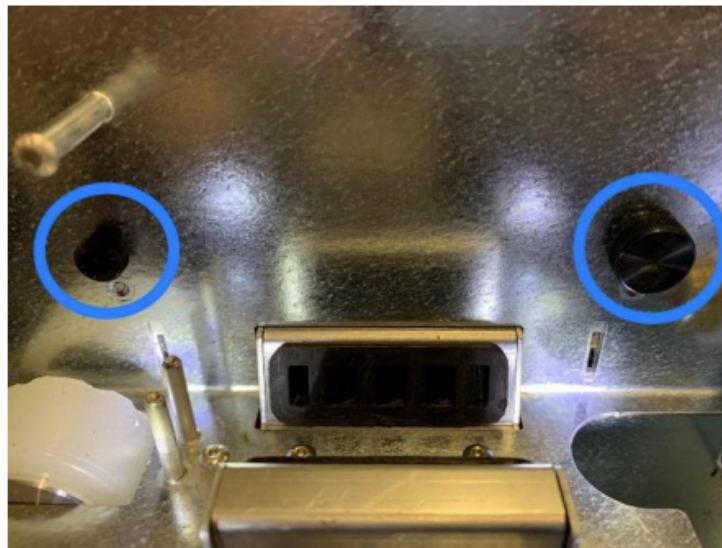
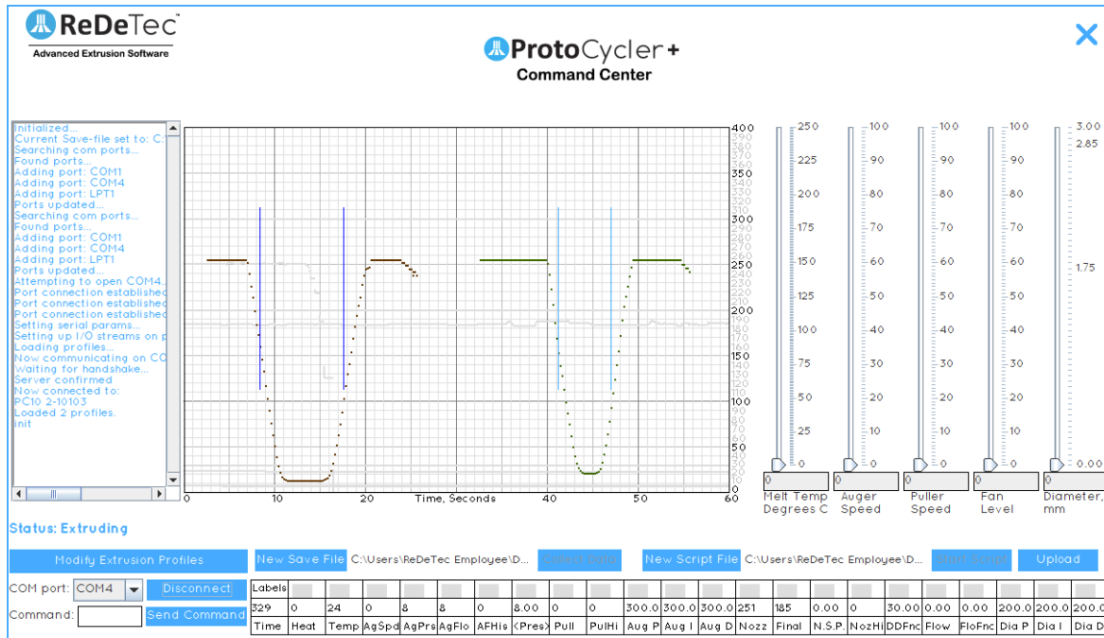

Figure 11: UI Thumbscrews for adjusting the height position of the photoresistors.
Figure 17: Nozzle Diameter Sensor raw data ideal reading example.
1. The first step is to ensure the sensors themselves are aligned. Each sensor has a thumbscrew that, if loosened, permits the sensor to move up and down, as shown below in Figure 11. **The sensors are adjusted from the factory and neither sensor should be adjusted unless the filament is seen to be frequently “falling off the edge” of the sensor.**
Depending on the rate of output, you may find that your filament is a little high or low relative to the diameter sensor. From the alignment process, the nozzle sensor is positioned approximately half way in its range of motion. Figure 17 shows ideal light sensor positioning. Notice the two troughs (representing the shadow of the filament) are relatively centered without falling off to either side. Whereas in Figure 18 we see the filament is too far off one side of the sensor for the nozzle sensor. If you find that your filament shadow is too far off one side that the sensor can no longer see the full “width” (diameter) of the filament’s shadow, we can fix this by adjusting the height of the light sensor. Using the thumb screw in the UI (Figure 11 for reference), loosen and adjust the height of the photoresistor so the shadow is centered within the range of measurement similar to Figure 18. When you have achieved this positioning, tighten the thumbscrew to fix position.